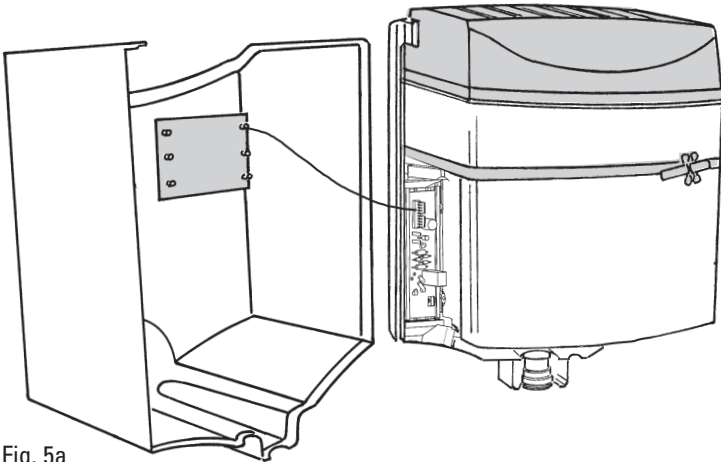
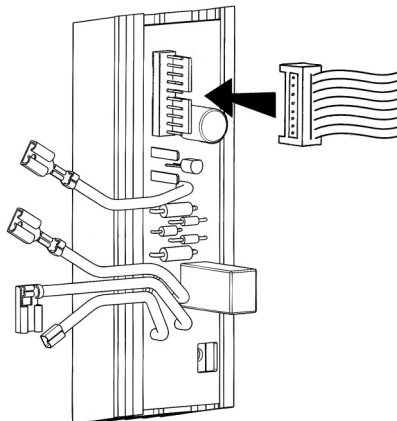

Fig. 5a
Fig. 5b
- Support the cover and re-attach the flying lead to the unit (See Fig. 5a and Fig. 5b).
b) All the lights are out and the POWER button does not work	Ensure that the electricity supply is switched on at the isolator. Ensure that the flying lead to the front cover is connected properly (see Fig. 5a and Fig. 5b). Check the supply to the PCB. If supply OK then change PCB.